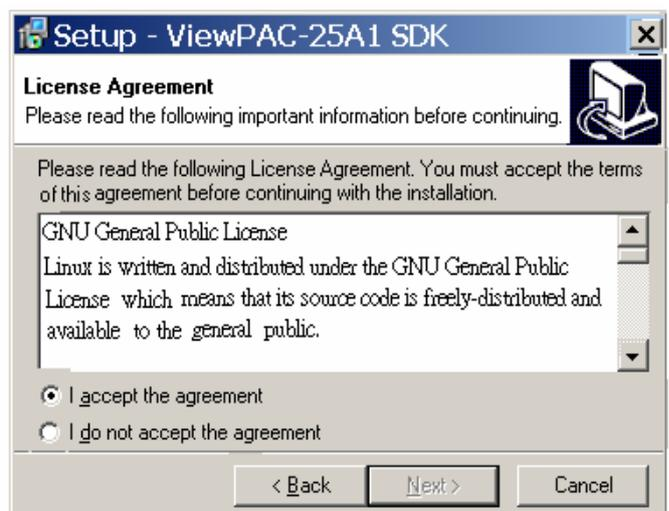

Fig. 2-2
3. Choose the option of “I accept the agreement” and click the “next” button, refer to Fig. 2-2 below.